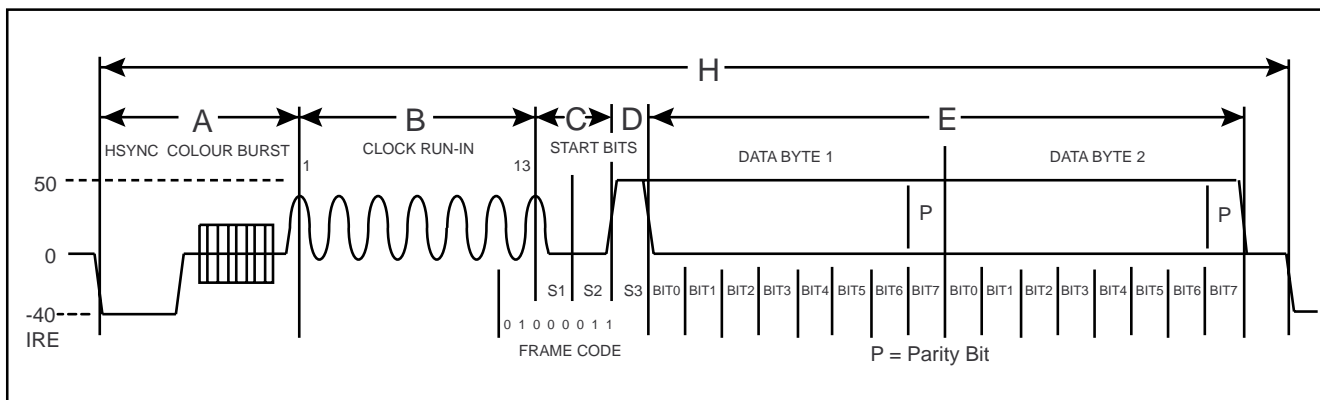

Figure 8 Closed Capation format
Two bytes of data are coded on the line 21 of each field, see figure 8. In the NTSC Closed Caption service, the default state is to code on line 21 of field one only. An additional service can also be provided using line 21 (284) of the second field. The data is coded as NRZ with odd parity, after a clock run-in and framing code. The clock run-in frequency = 0.5034965MHz which is related to the nominal line period, $D = H / 32$.